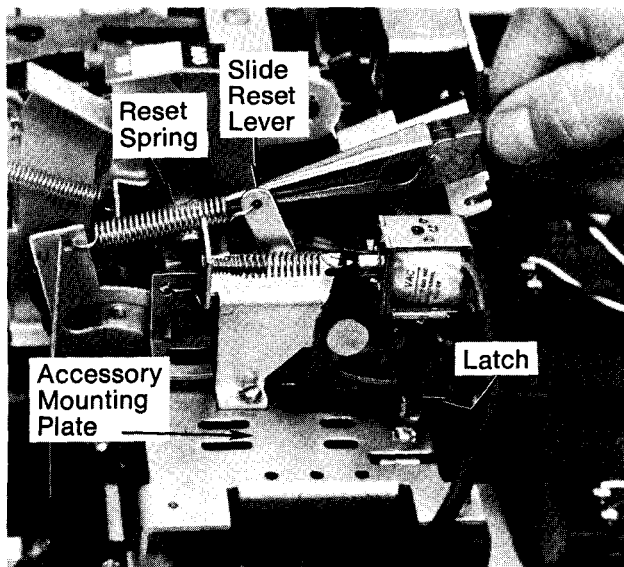

Fig. 16.
- Remove the slide reset lever spring from the mounting plate as shown in Fig. 16. Care should be exercised not to nick or damage the spring in any way, since it will be needed for reassembly.
7. Replace slide reset lever spring (Fig. 16).